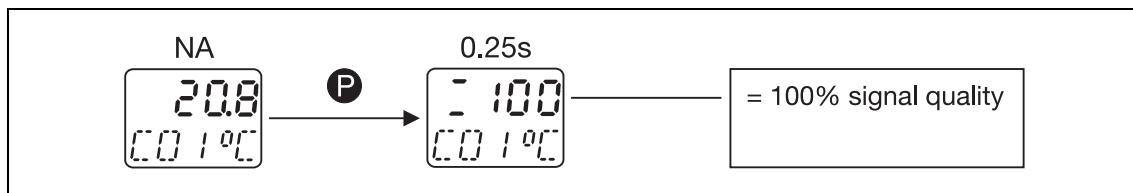

Figure 21: Signal quality display
Key **P** is used to show the signal quality of the current channel in percent in the standard display (NA) (see Figure 21, 100%).